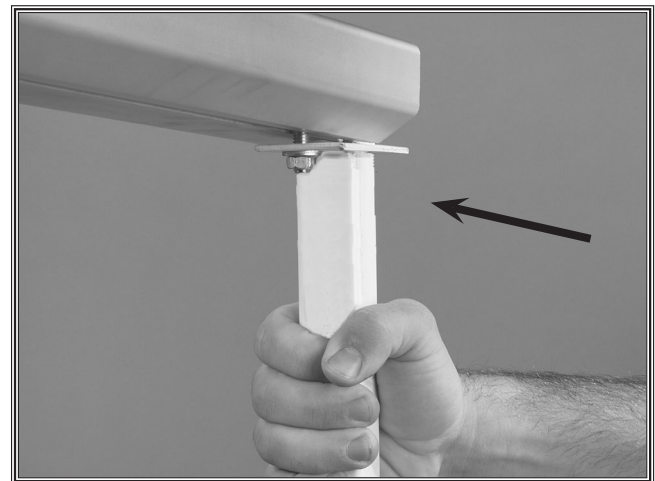

Figure 9. Sliding rail leg into table.
7. On each leg flange fasten two $\frac{5}{16}$ "-18 x $\frac{3}{4}$ " T-bolts, flat washers, and the nuts; then slide the legs onto the rails as shown in **Figure 9**.